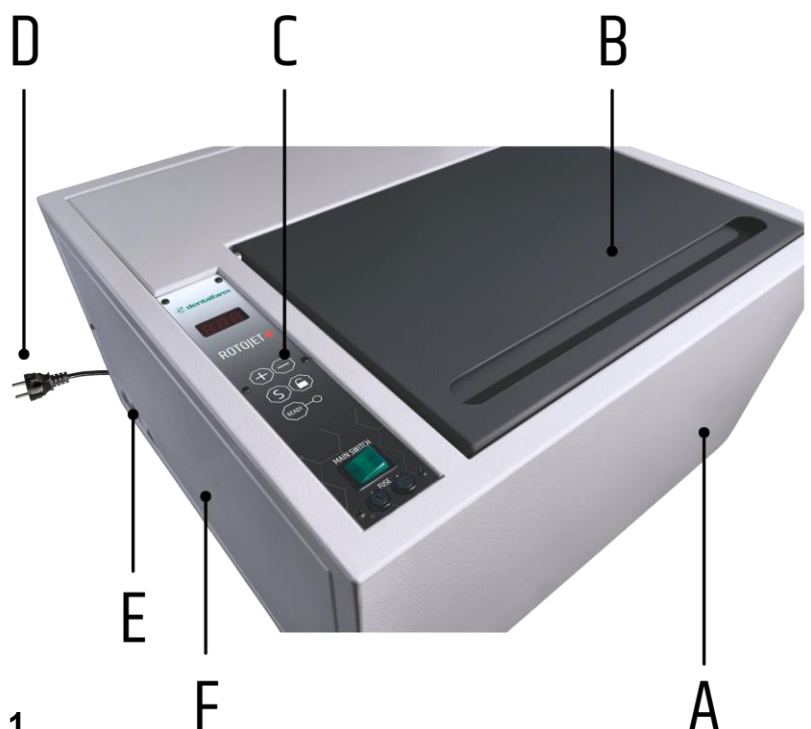

FIG. 1
1.1 DISPOSITIVI DI SICUREZZA (FIG. 1)